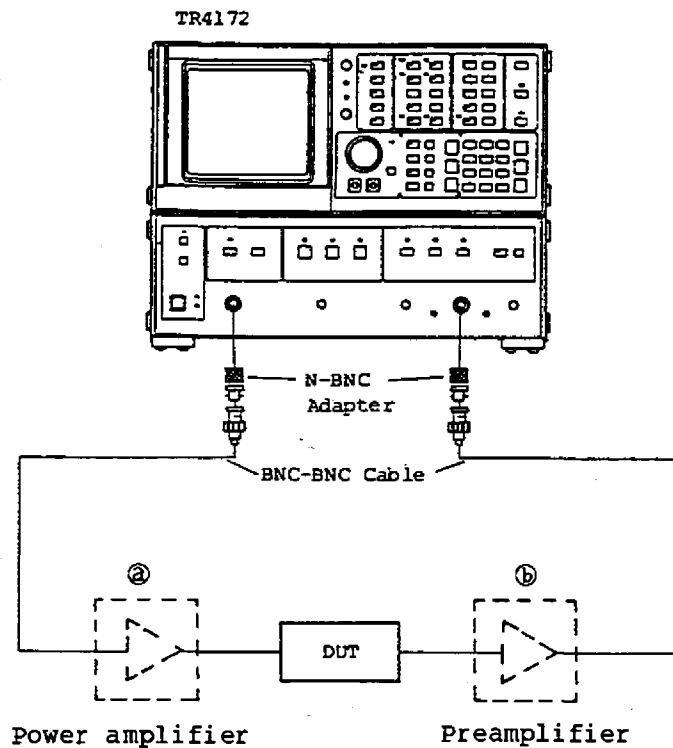

Fig. 5-3 Connecting filter and TR4172 via preamplifier
The preamplifier (option 02) is equivalent to ② in Figure 5-3. If the T.G. output level is too high, it can be attenuated by up to 50 dB at 10 dB steps as follows: